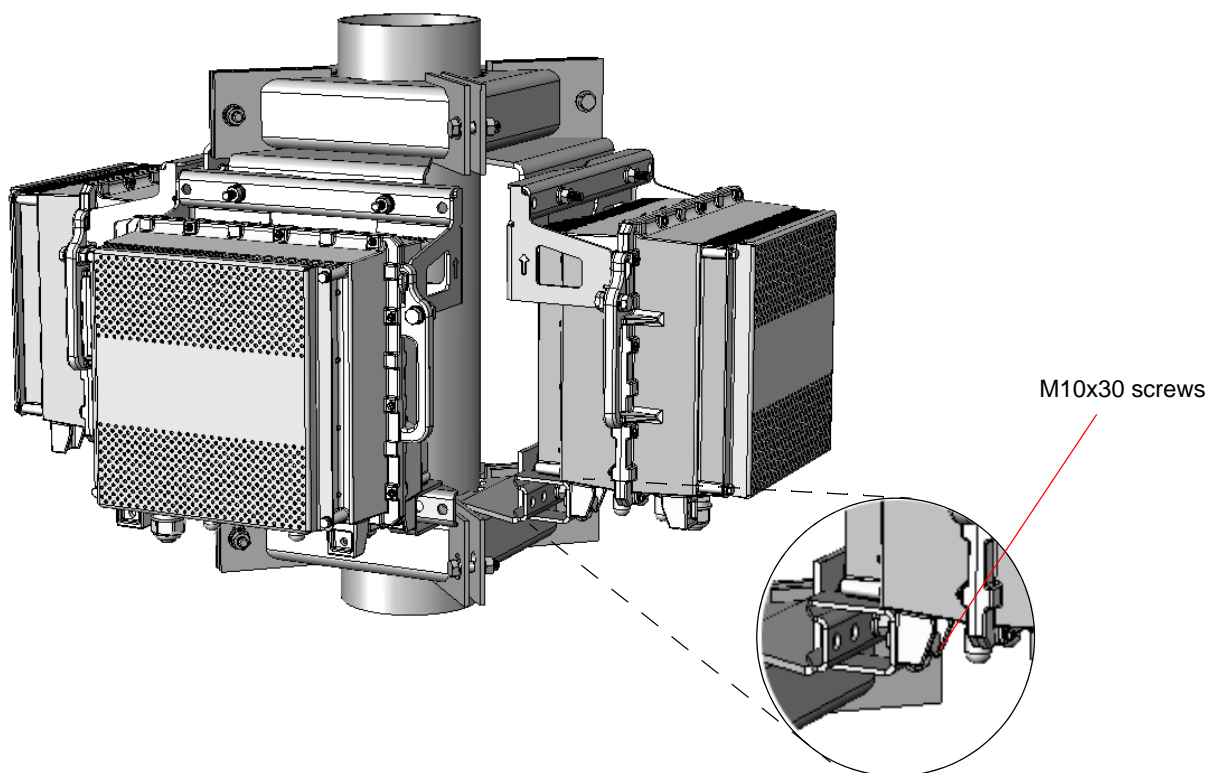

Figure 32: Three ODUs Assembled on the Pole
- 5 Insert the threaded rods through all lower brackets. Tighten using the supplied washers, spring washers and nuts (Figure 32).